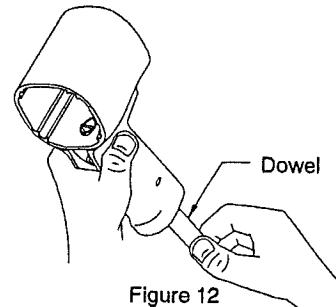

Figure 12
Use a wooden dowel to push the Reverse Valve up through the handle until the top of the Reverse Valve is flush with or slightly above the bottom of the motor bore in the Housing (19). See Figure 12.